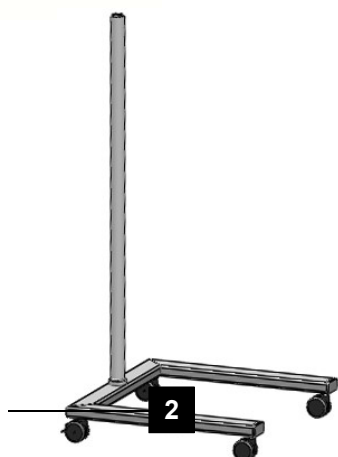

Figure 17: Wheels and brakes of the mobile stand
2. Apply the brakes (Figure 17/1) of the wheels. (Figure 17/2). For this, the brakes must be locked with the lever.